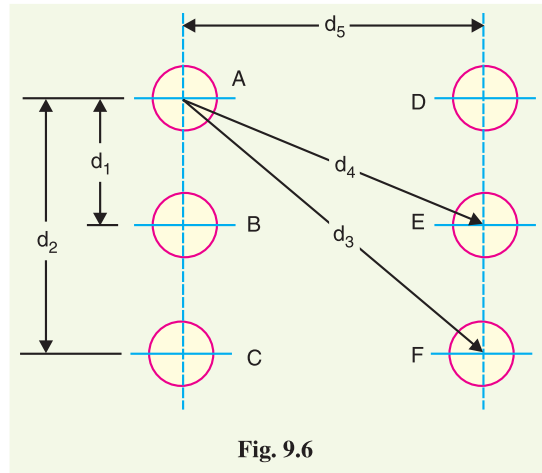

Fig. 9.6
**2. Flux linkages in parallel current-carrying conductors.** We shall now determine the flux linkages in a group of parallel current carrying conductors. Fig. 9.6 shows the conductors A, B, C etc. carrying currents  $I_A, I_B, I_C$  etc. Let us consider the flux linkages with one conductor, say conductor A. There will be flux linkages with conductor A due to its own current as discussed previously. Also there will be flux linkages with this conductor due to the mutual inductance effects of  $I_B, I_C, I_D$  etc. We shall now determine the total flux linkages with conductor A.